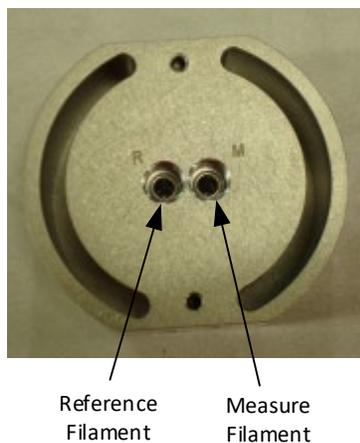

Fig. 8.11. Single-Port TCD Components
8.3.7 Single-port thermal conductivity detector (see Figure 8.11)